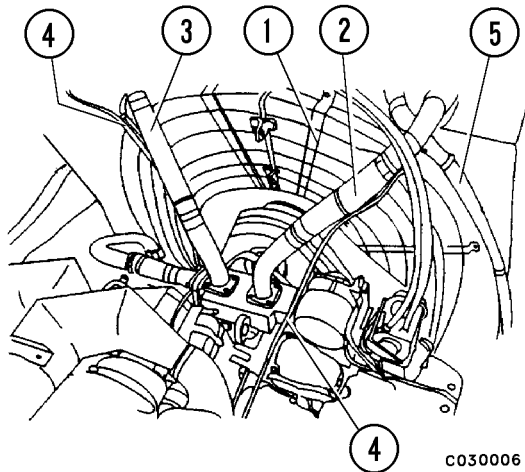
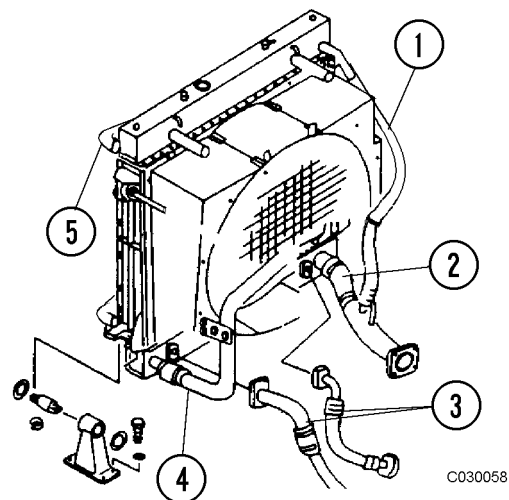

FIGURE 3-4. RADIATOR COMPONENTS
FIGURE 3-5. COOLANT AND OIL LINES
10. Remove fan guard (1, Figure 3-4).
12. Disconnect de-aeration hoses (4).
14. Remove radiator outlet hose (2, Figure 3-5) and radiator bypass hose (1).
15. Remove connector hoses and tubes between air to air coolers (5) and engine.
16. Remove transmission oil cooler hoses (3). Remove oil cooler inlet hose and tube (4).